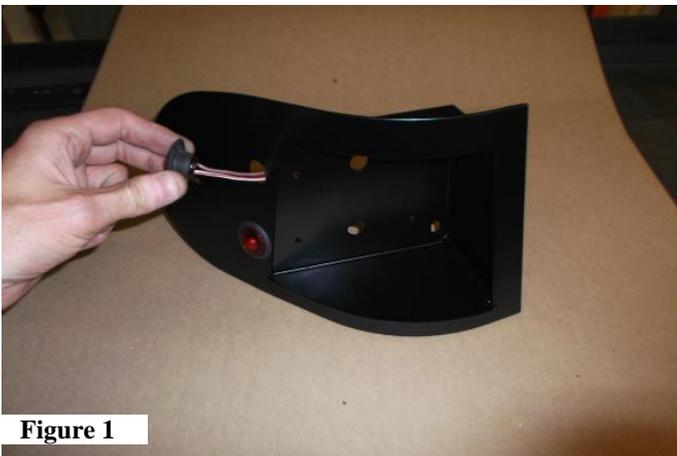

Figure 1
- a. Insert two of the Red 1” Side Marker lights by threading the wires through the $\frac{3}{4}$ ” holes from the outside, and simply press into place. (See Figure 1).